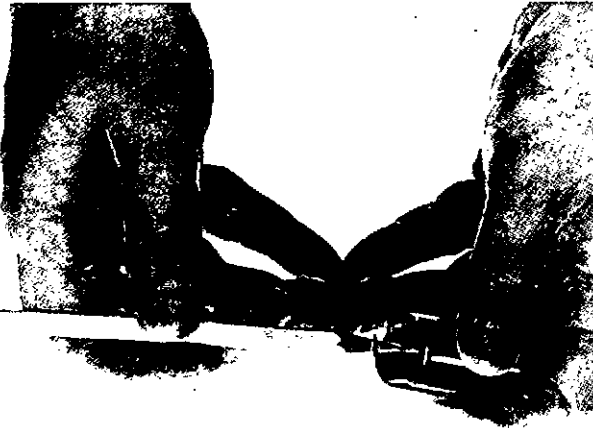
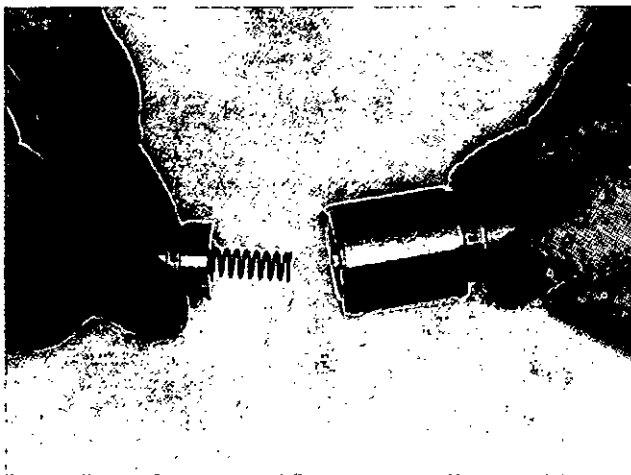

Fig. 8-4, (F558). Install the washer over the idle screw.
Fig. 8-5, (F559). Install the idle plunger button.
1. Assemble the idle screw into the plunger guide. Install the small washer over the screw tip that is inside the guide, Fig. 8-4. Some fuel pumps require two idle washers, see the calibration code. Put the small idle spring into the guide. Assemble the idle plunger (button) against the spring in the guide. Fig. 8-5.